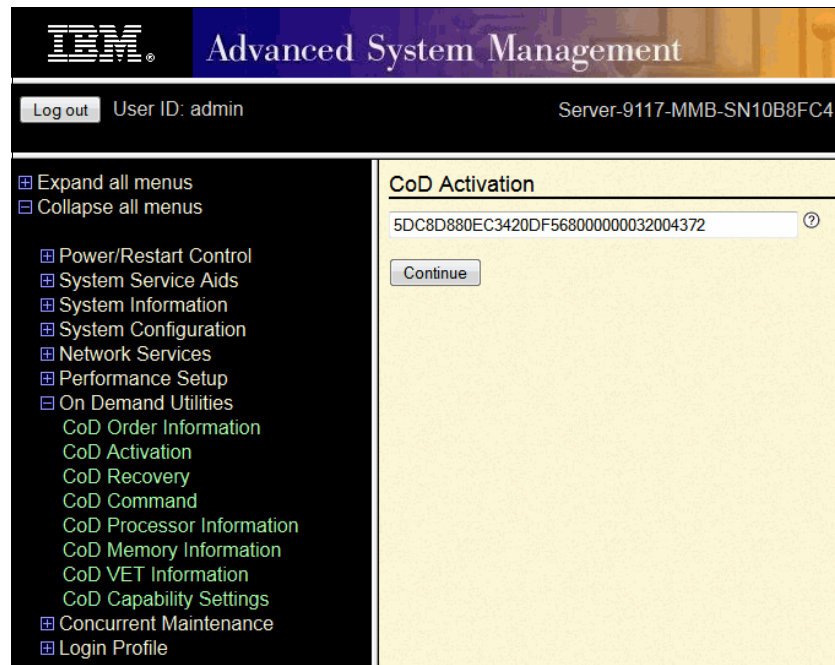

Figure 4-43 ASMI Capacity on Demand enter code panel
- v. Enter the code for each resource, processor core, or memory, as shown in Figure 4-43.